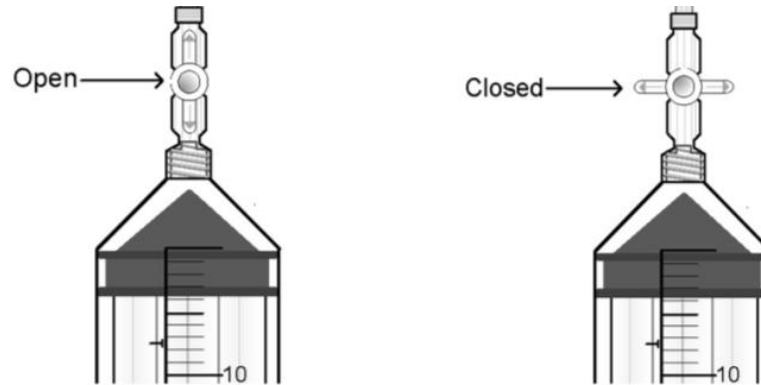
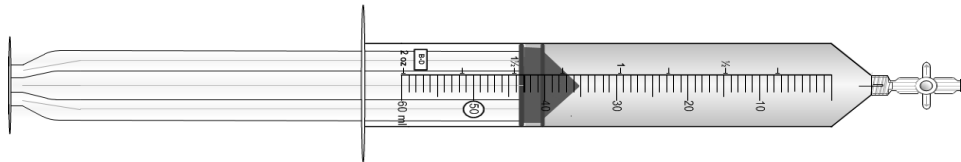

Figure 8. Example of a syringe and stopcock in the "open" and "closed" positions
Figure 9. A syringe with a 40 mL water sample
17. RINSE: Place the syringe tip (with 1-way stopper attached and turned to open; Figure 8) into the stream so that you are sampling the water ~10 cm under the surface of the water. Pull in ~20 mL water and remove syringe from stream. Rinse the syringe by pulling the stopper all the way back (without removing it) and shake. Expel the rinse water downstream or onto the bank.
18. **SAMPLE:** Put the syringe tip back into the water, below the surface, and pull the plunger until the syringe is completely full. Remove the syringe and tap the sides of the syringe firmly with your hand/fingers to remove the air bubbles. **EXPEL** water, leaving approximately 1 mL in the syringe, which will help reduce air intake on the next sampling. Put the syringe back in the water, expel the final 1 mL of aerated water below the stream surface, and slowly fill to the 40 mL mark, being careful not to entrain any air bubbles (Figure 9). Immediately turn the 1-way stopper to the closed position before removing the syringe from the stream (Figure 8). Take 5 separate syringe samples all within the main flow of water. Place the syringe in a small cooler to help maintain stream temperature at time of collection.